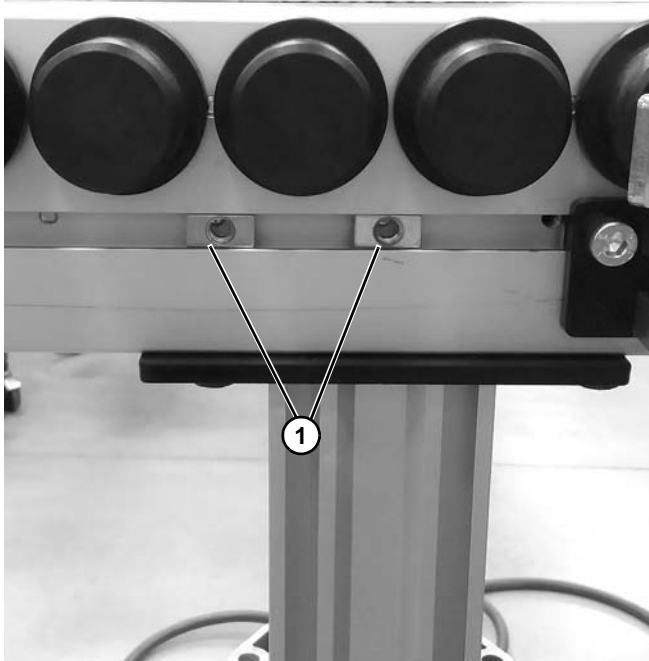

Figure 34
1. Install two spring nuts (**Figure 34, item 1**) in inner T-slot on both sides of the conveyor